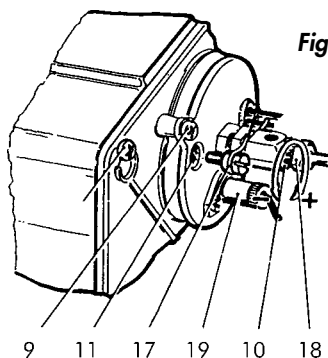

Fig. 8
- Adjust the flame by acting on both the air flow via the screw (13) and relative crown (12) and on forward-rearward excursion of the nozzle holder (10). To adjust the latter act on the screw (17).
- It is recommended that you bring the holder forward (+) for high or near-maximum flow-rates and shift it back (-) for low flow-rates (see fig. 8).
N.B. If the burner fails to start up check that the pump has been primed: if it has not, act manually by undoing the gauge attachment screw (27) and then screwing it back in as soon as you notice fuel exiting the hole.